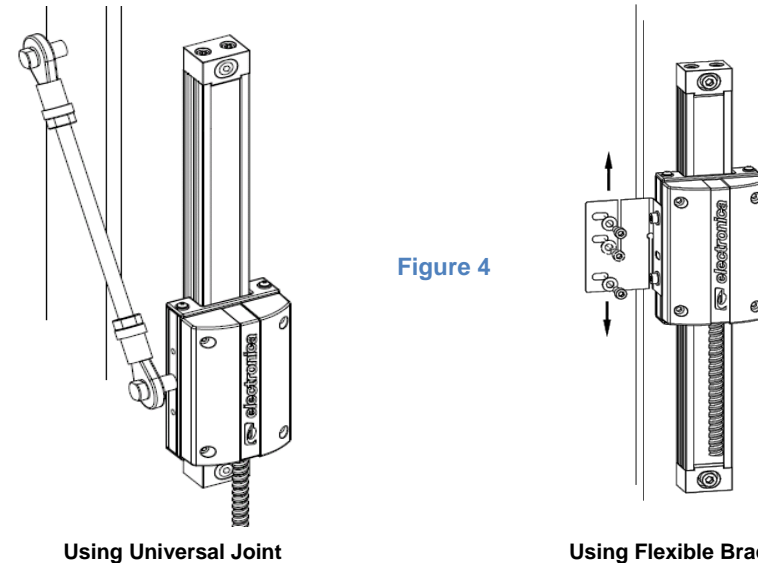

Figure 4
- With link – Carriage can be mounted using universal link as shown in figure 4.
- With flexible bracket – Carriage can be mounted using flexible bracket as shown in figure 4.